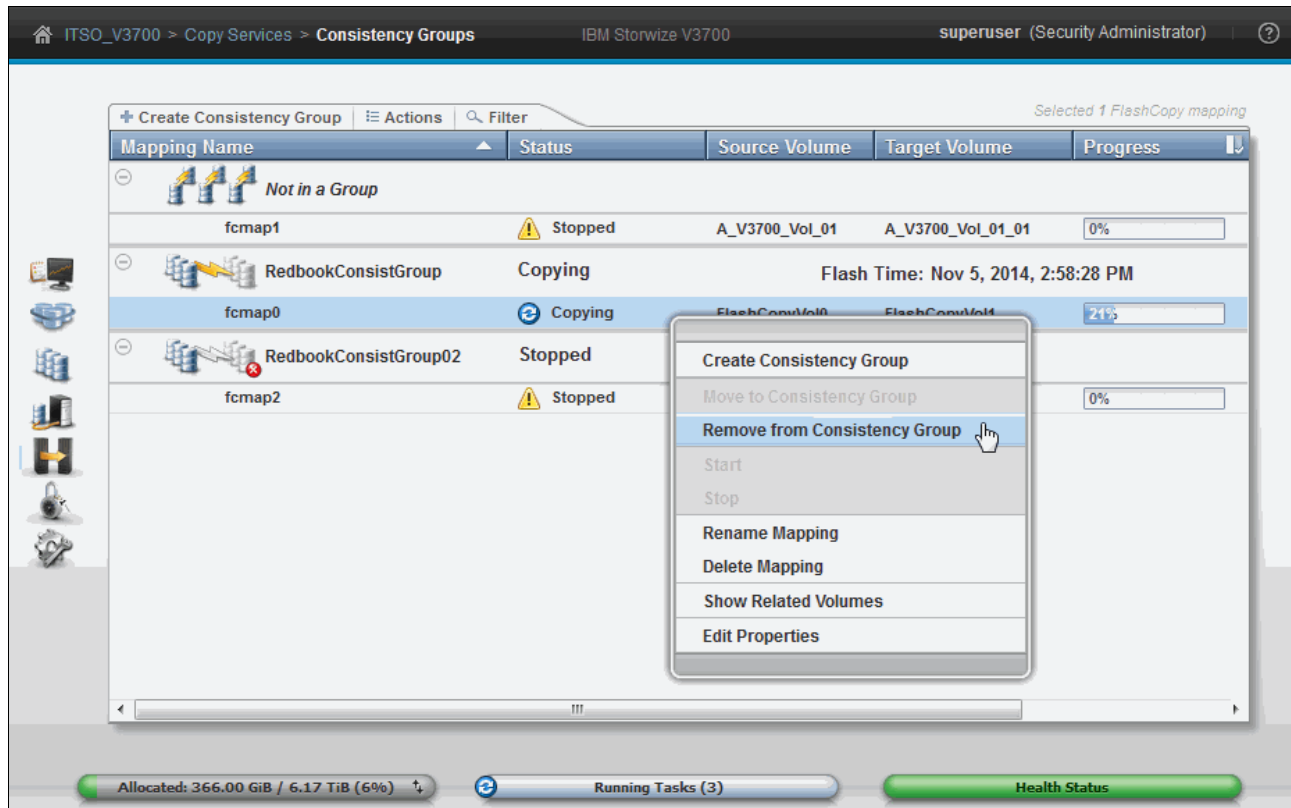

Figure 10-63 Remove from consistency group
2. Click **Remove from Consistency Group** from the **Actions** drop-down menu of the FlashCopy mapping, or right-click, as shown in Figure 10-63.